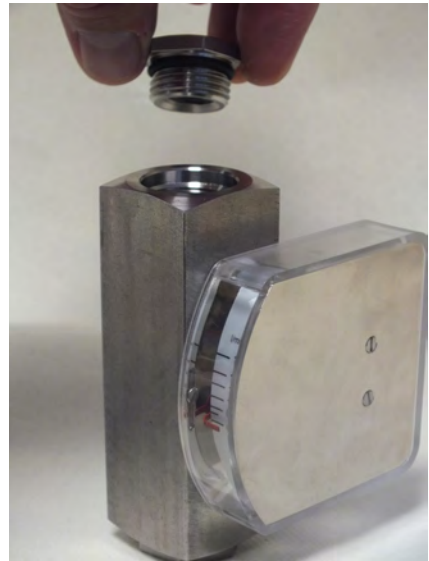

Fig. 43: Remove the process connection (outlet)
7.  Unscrew and remove the process connection (outlet) from the device body (Fig. 43). If necessary, remove the O-ring from the process connection.